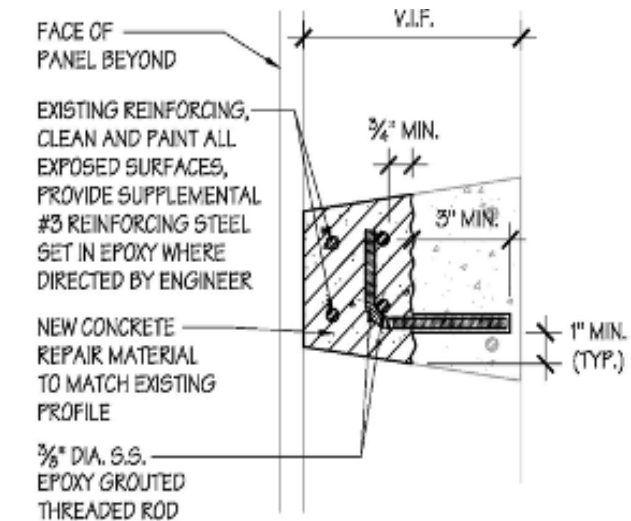

Figure 1 – Type I Louver Repair
1. Level 1 Repairs: Perform conventional concrete repairs to address continued deterioration similar to what was performed in 2009 (See Figure 1 below). The scope of work would also include routing and sealing of cracks, and applying an architectural waterproofing coating. These repairs would only address localized areas of deterioration and would not necessarily protect the louvers from continued exposure to chlorides and the effects of ring anode corrosion. Furthermore, the waterproofing coating considered for this repair is not elastomeric, and will not accommodate cracks that may appear in the future. As such, re-application would be required every 3 to 5 years.